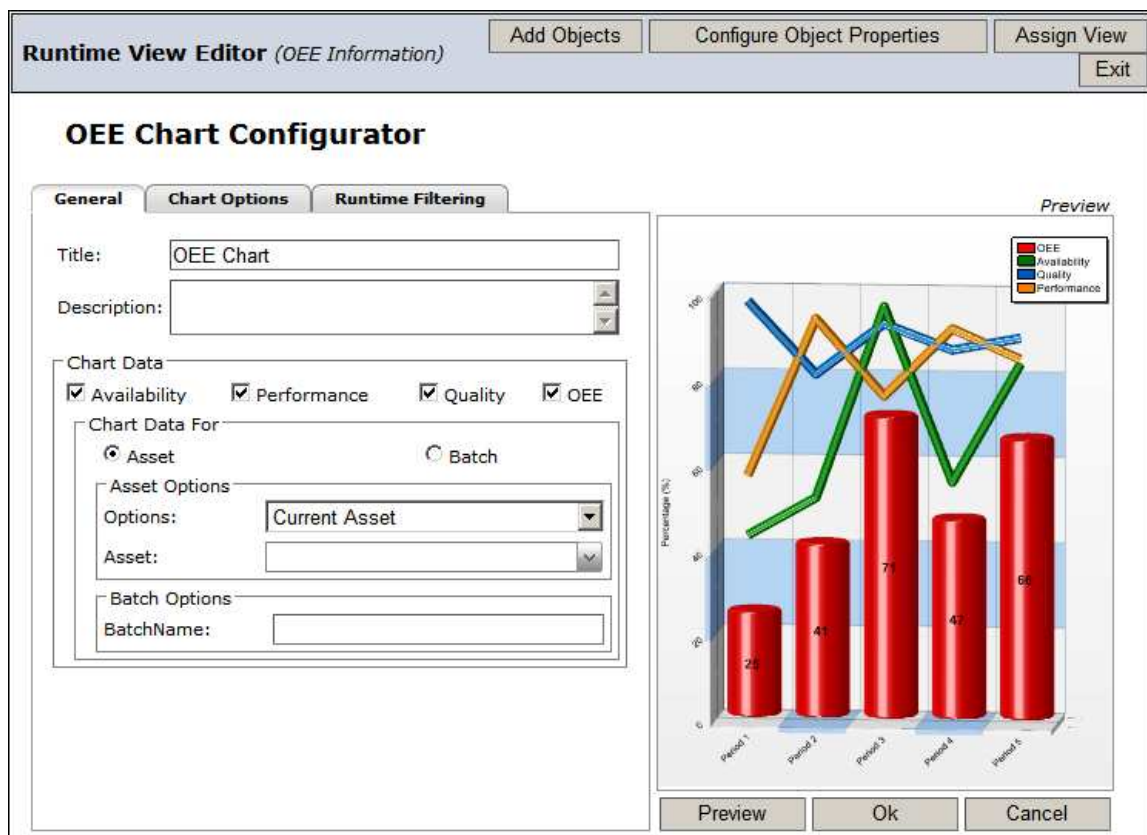

Figure L8.3 - OEE Chart Configurator: General Tab
12. Your General tab for the OEE Chart Configurator should look like Figure L8.3.